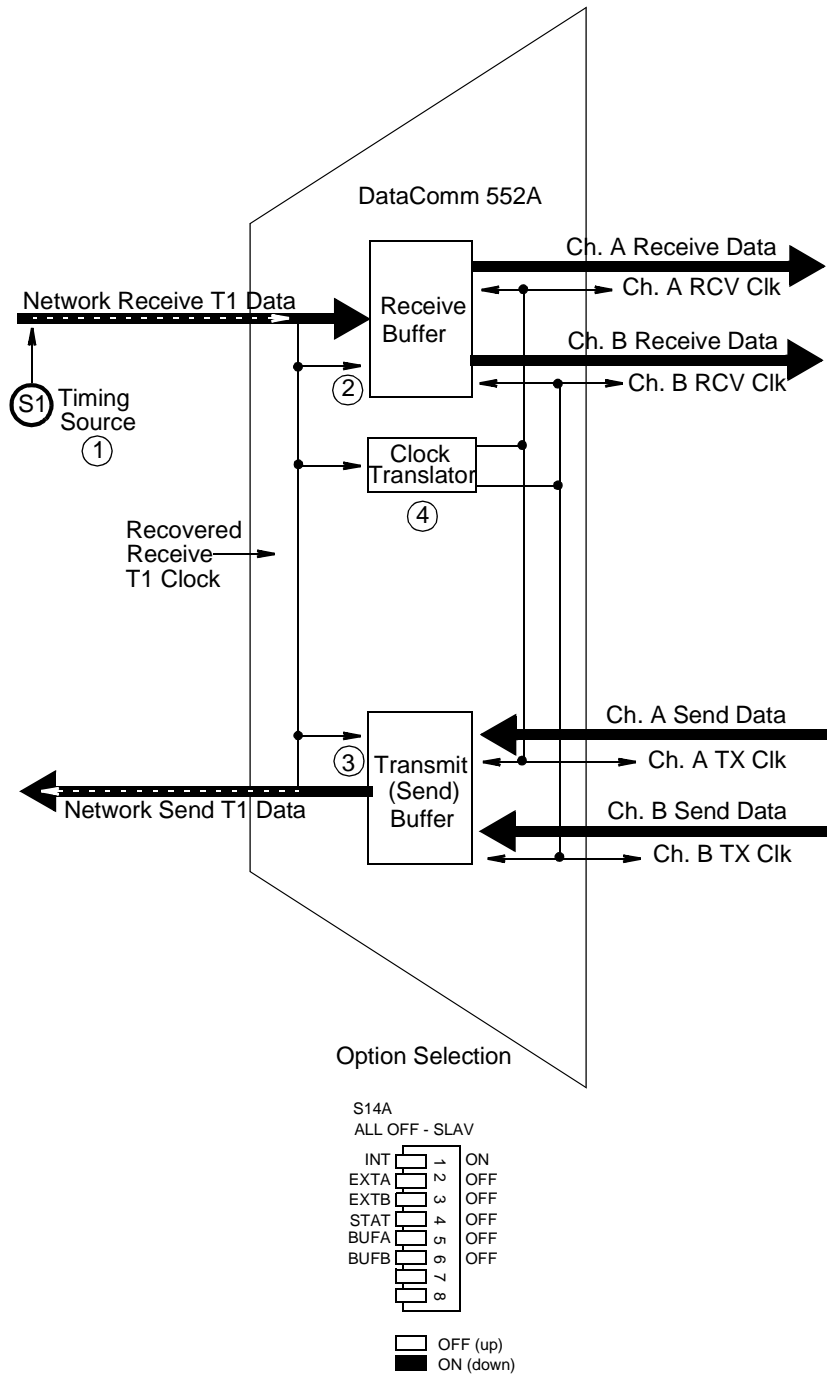

Figure B-1 Slave Timing
With Slave Timing, illustrated in Figure B-1, the network (or a device at the remote end) provides the timing source (1). The DSU recovers the receive T1 clock from the network receive T1 data and uses it to clock T1 data into the receive buffer (2) and to provide the send timing source for T1 data output from the transmit buffer (3) to the network. The DSU also translates (4) the receive T1 clock to provide the channel transmit and receive clock signals on the appropriate interface leads for each channel.